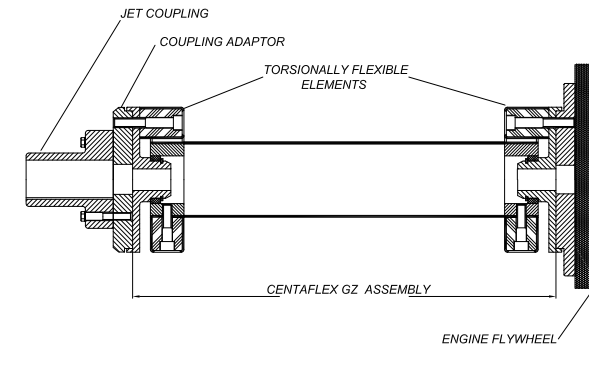

Figure 9: Central Universal Joint Shaft
- a) For dimensions A and B shown in Figure 9, for twin and triple jet installations refer to installations drawings in section 5 of this manual.